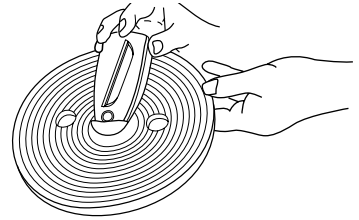

Fig 11
1. Place the blade of your choice into the blade holding disc. Hold the blade by the holding clip and insert the other end into the blade holding disc. Press down on the end of the blade with the holding clip until the blade is sitting flat in the blade holding disc, see Figures 11 & 12.